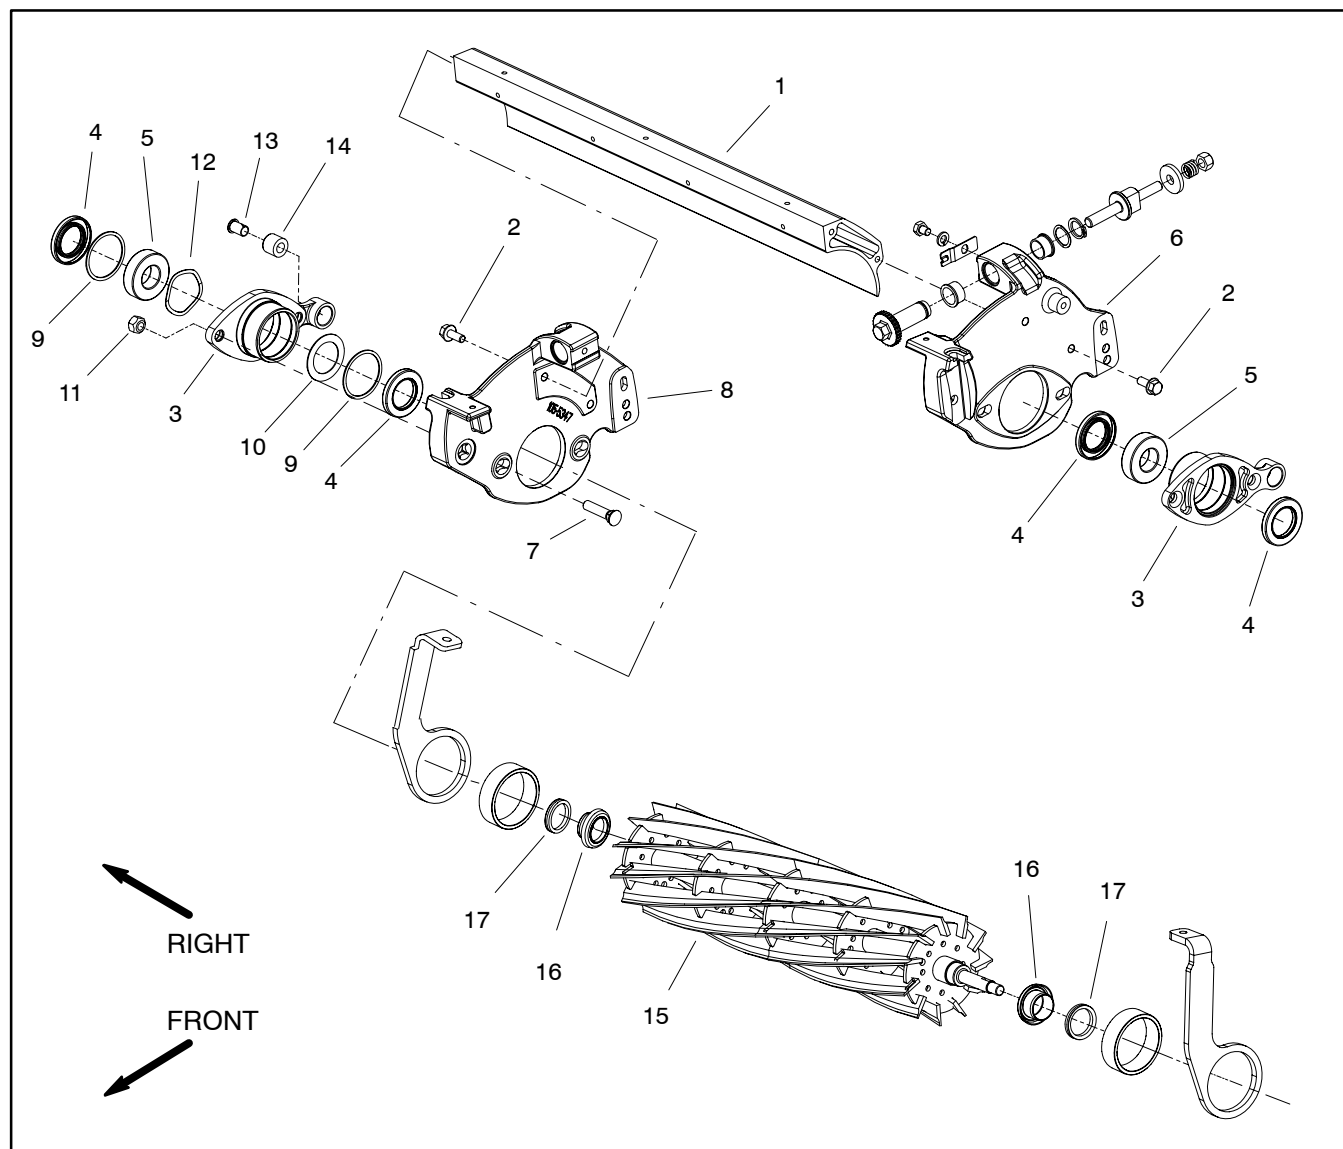

Figure 45
**NOTE:** Cutting units with serial numbers above 240001000 were produced with the v-ring style reel seal package shown in Figure 45.
### Disassembly (Fig. 45)
### Assembly (Fig. 45)